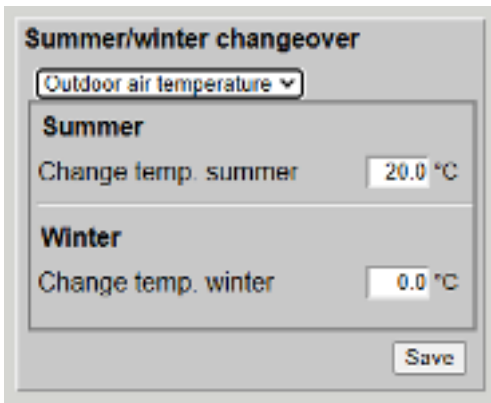

Fig. 32: Outdoor temperature
- ▶ If you choose 'Outdoor temperature' as the type of control, you also have to set the summer and winter changeover temperature ( Fig. 32 ).